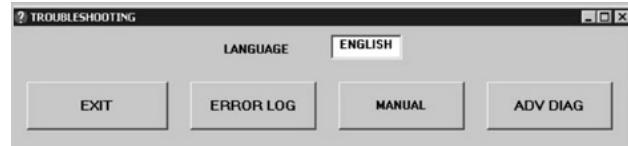

Figure 53
13. HELP – Click to launch troubleshooting panel (Figure 53)– See Trouble Shooting Section (Section 7.11)